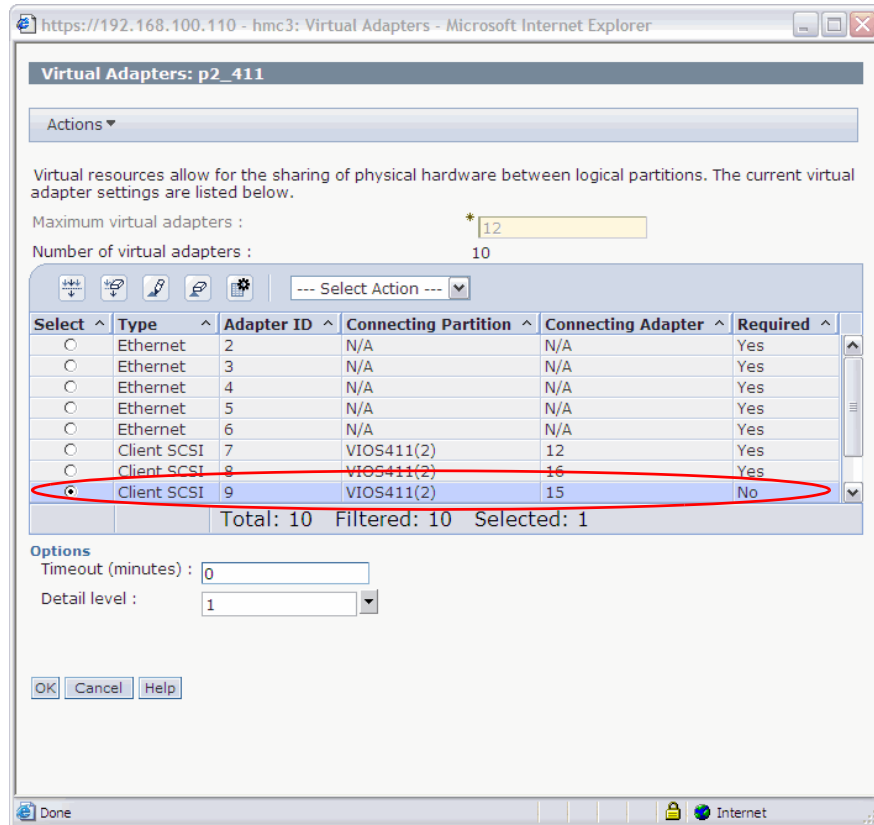

Figure 4-3 Client logical partition mapping for access to SAN disk
- Map a virtual SCSI adapter from the Virtual I/O Server to the client logical partition if the mapping does not already exist. You should see something similar to the highlighted line in Figure 4-3.